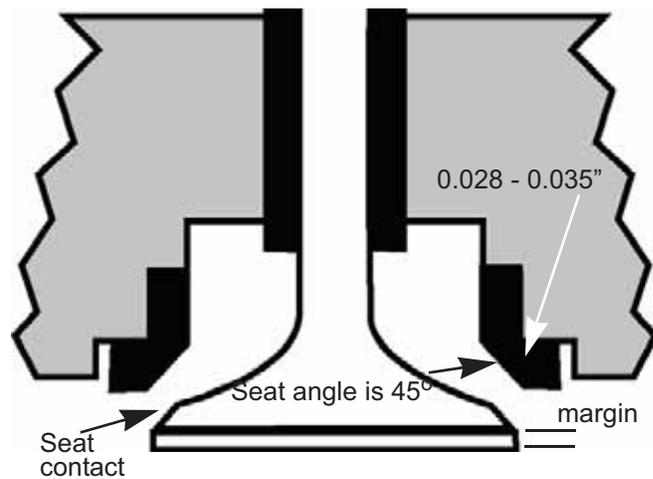

Figure 9.13
- Inspect the valve seat. See Figure 9.13.